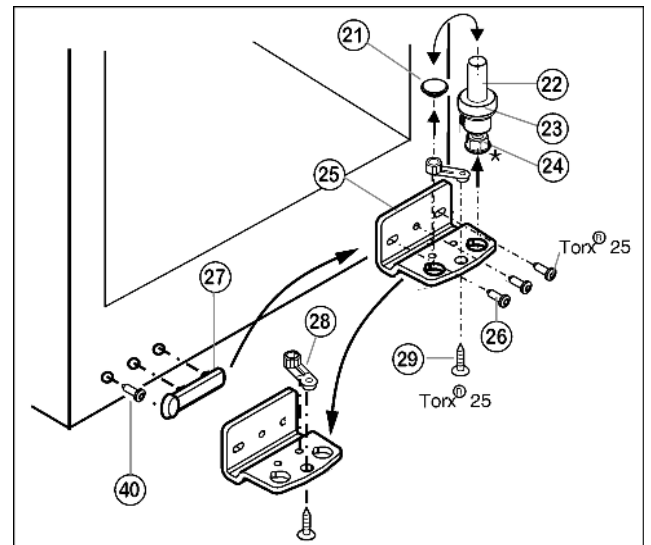

Fig. 5
- ▶ Lift out the bearing pin Fig. 5 (22) together with washer Fig. 5 (23) and adjustable-height foot* Fig. 5 (24).
- ▶ Lift off the stopper Fig. 5 (21).
- ▶ Unscrew Fig. 5 (26) the turn hinge Fig. 5 (25).
- ▶ Unscrew Fig. 5 (29) the bearing element Fig. 5 (28), transfer it to the opposite location hole of the turn hinge and screw it firmly into place.
- ▶ Carefully lift off the cover on the handle side Fig. 5 (27), undo the screw Fig. 5 (40) and transfer both to the opposite side.
- ▶ Screw the turn hinge Fig. 5 (25) firmly into place on the new hinge side, possibly using a cordless screwdriver (with 4 Nm).
- ▶ Re-insert the stopper Fig. 5 (21) into the other hole.
- ▶ Re-insert the bearing pin *Fig. 5 (22)* together with the washer and adjustable-height foot*. In so doing, pay attention that the locating lug points backwards
- ▶ Place the door from above onto the lower bearing pin *Fig. 5 (22)*.
- ▶ Align the door to the appliance housing by way of the two oblong holes in the bottom turn hinge *Fig. 5 (25)*. To do so, unscrew the middle screw.